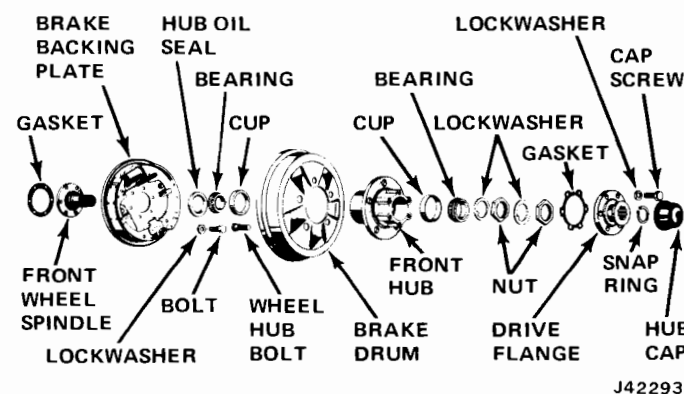

Fig. 9-43 Front Wheel and Hub Assembly—CJ Models
- (1) Remove hubcap, snap ring, capscrews, and washers that attach driving flange to hub (fig. 9-43).
- (2) Using Front Axle Shaft Drive Flange Puller J-25133, pull driving flange.
- (3) Bend lip of lockwasher and remove locknut and lockwasher.
- (4) Rotate wheel and tighten adjustment nut until wheel binds using Tool J-25103.